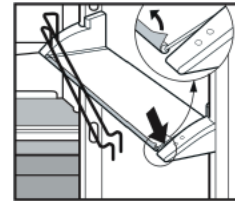

Figure 41
- The shelves and door racks can be dismantled for cleaning (**Figure 41**).